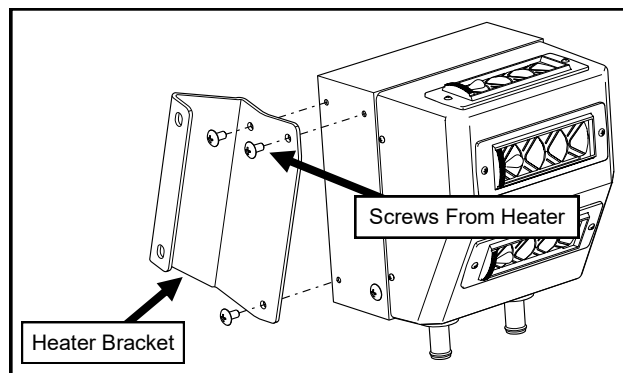

Fig. 15.1 (Assemble Heater to Bracket)
15.1 Assemble the heater bracket onto the heater using the screws already installed on the side of the heater. See Figure 15.1. Tighten hardware.